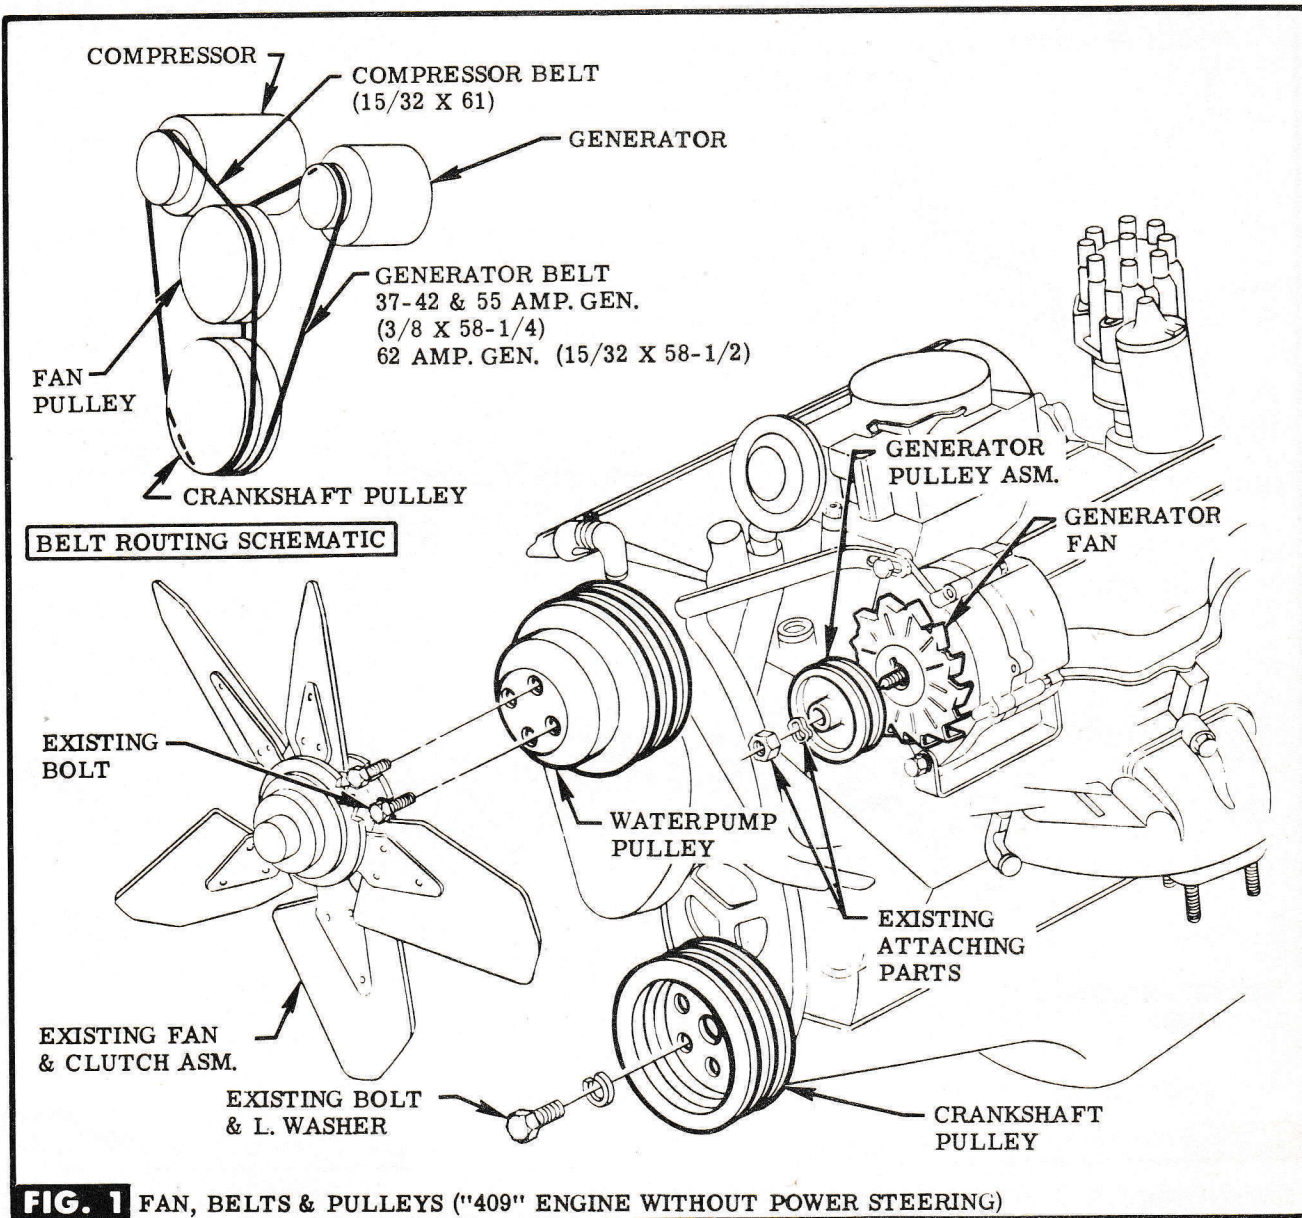

FIG. 1 FAN, BELTS & PULLEYS ("409" ENGINE WITHOUT POWER STEERING)
STEP 6 INSTALL PROVIDED GENERATOR BELT ON REAR PULLEYS, COMPRESSOR BELT ON CENTER PULLEYS & EXISTING POWER STEERING BELT ON FORWARD PULLEY. SEE SCHEMATIC IN FIG. 1. **NOTE** Adjust compressor on support until belt is tight then secure nuts at pivot bolts & clamping bolts. See COMPRESSOR MOUNTING SHEETS.